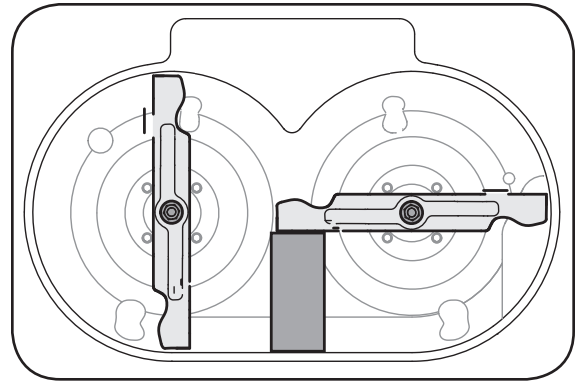

Figure 5-13
2. Place a block of wood between the center deck housing baffle and the cutting blade to act as a stabilizer. See Figure 5-13.